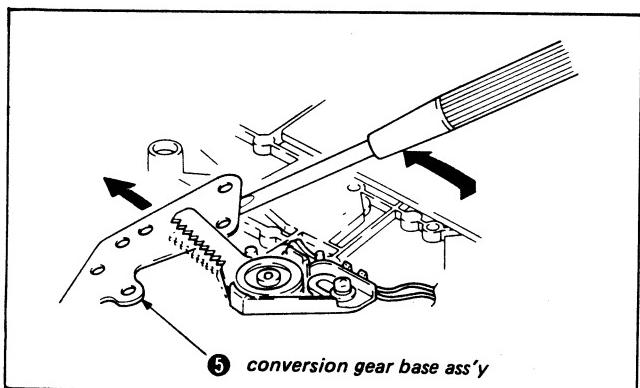

Fig. 3-40.
- 3) Remove screw ① and MD harness clamper A ②.
- 4) Remove timing belt ③.
- 5) Remove screw ④ and remove conversion gear base assembly ⑤ with a screwdriver. (Fig. 3-40, 3-41)